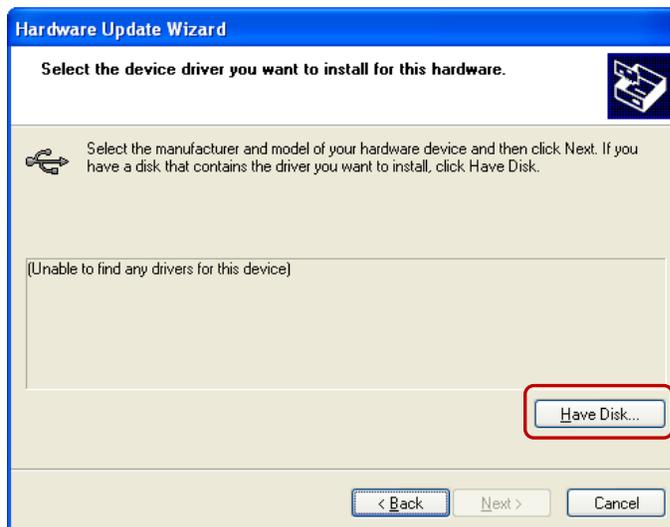

Fig. 21
16. Select **Have Disk** button as shown in Figure 21.